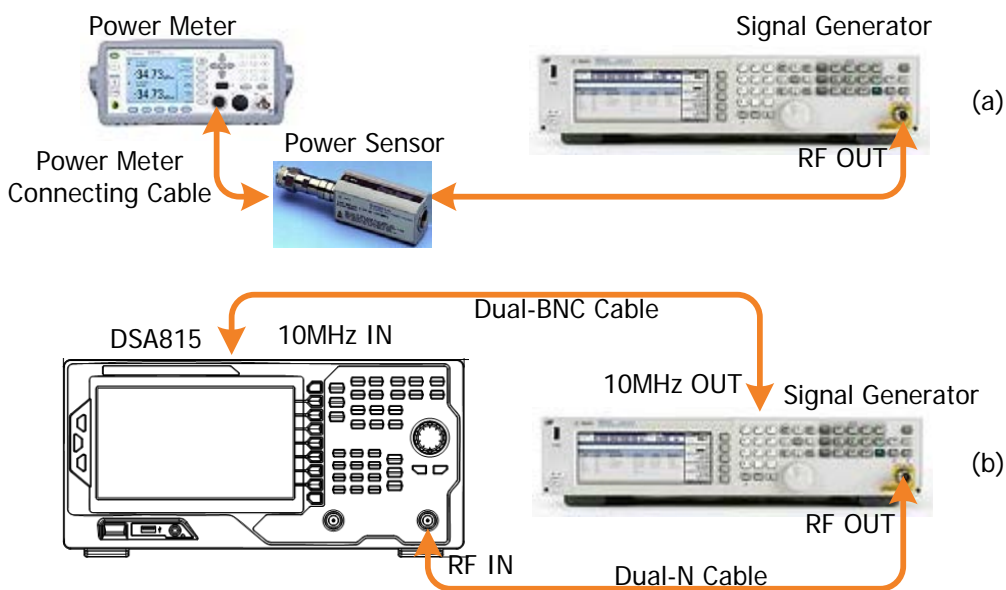

Figure 2-3 Absolute Amplitude Accuracy Test Connection Diagram
2. Connect the output terminal of the signal generator with the power sensor, as shown in Figure 2-3 (a).
6. Connect the output terminal of the signal generator with the input terminal of the spectrum analyzer using dual-N cable as shown in Figure 2-3 (b).